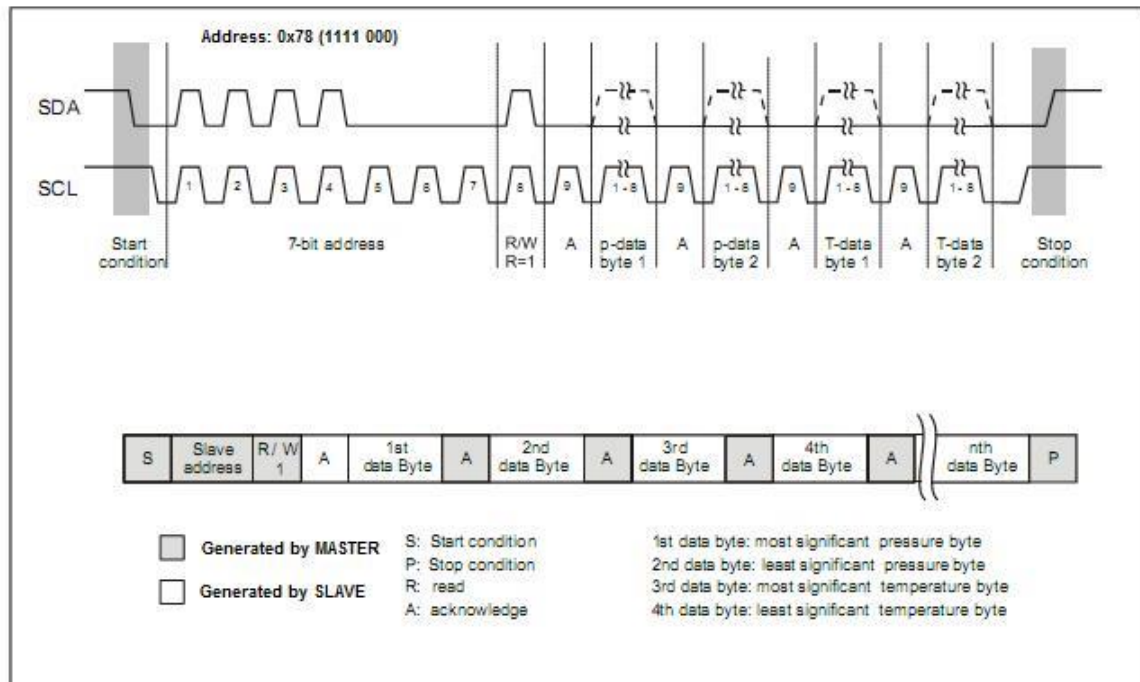

Figure 4: Digital pressure & temperature data transfer from APSP PHPS sensors
Digital data transfer is presented in figure 4.
Pressure and temperature output signals from PHPS pressure sensors come as 15-bit values to the output register. Master, which would like to read this data, starts communication with the start condition. After that master sends a 7-bit slave address (factory default is 0x78) and data direction bit R/W (for read data R/W="1"). Slave confirms this address with acknowledge (A) bit first and afterward sends desired data with bytes (8 bits): the first byte is a most significant byte for pressure value, the second byte is a least significant byte for pressure value, the third byte is a most significant byte for temperature value, the fourth byte is a least significant byte for temperature value. Master must confirm each received byte with acknowledge bit (see figure 4). Master can stop the data transfer by sending the stop condition or it can generate additional acknowledge bit after 4 receiving bytes of data (pressure and temperature) for continuous data receiving from slave (PHPS sensor).